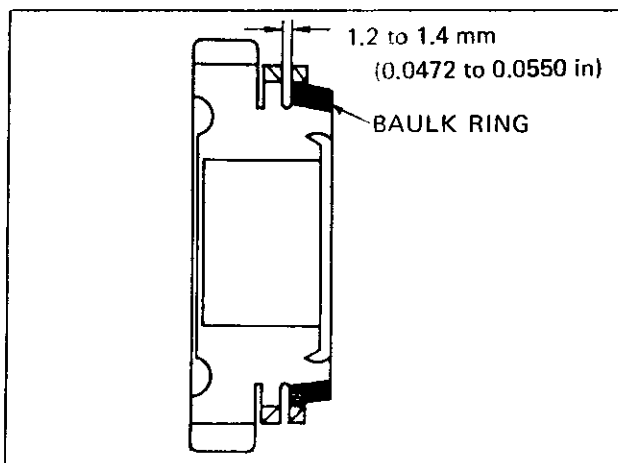

Fig. TM-32 Baulk ring-to-cone installing dimension
2. Measure the baulk ring inside serration for wear as shown in Figure TM-32 below.